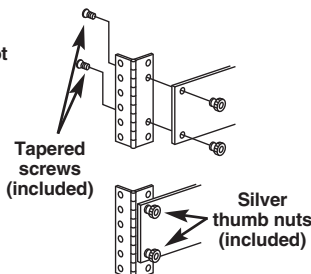

Figure 2. Connecting the tapered screws to the bracket.
2. Insert the (2) $\frac{3}{8}$ " tapered screws into the tapered holes on the bracket, then install the silver thumb nuts. See Figure 2.